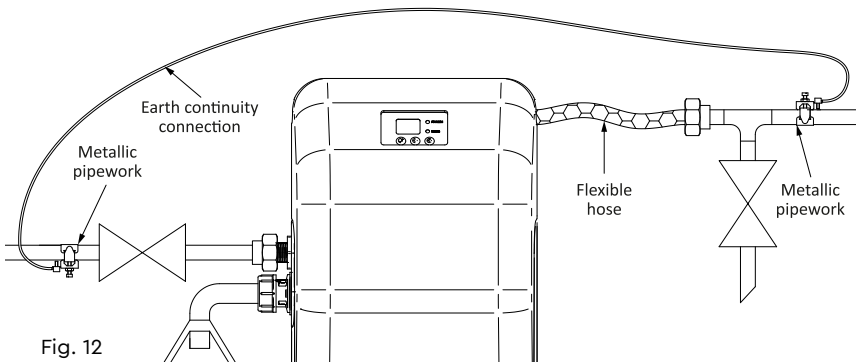

Fig. 12
- 7.15 **Adjacent pipes:** Adjacent suction and delivery pipes should be fitted with earthing clamps in accordance with current regulations (Fig. 12).